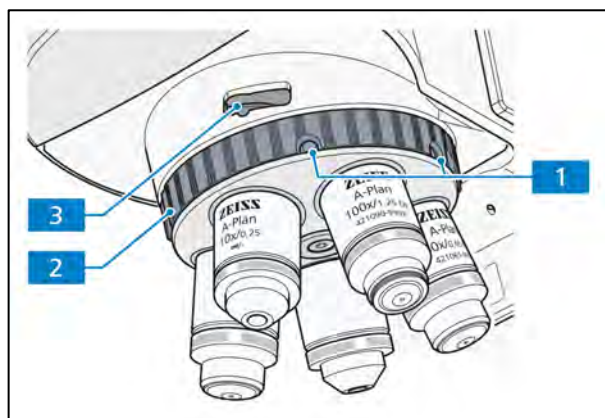

Fig. 2-22 Nosepiece of the transmitted/
- You can change the objectives quickly by turning the nosepiece on knurled ring (Fig. 2-22/2).
- Incorporates slot (Fig. 2-22/3) for 6x20mm slider (compensators, analyzers, quarter plates).
- Stand for transmitted light polarization and stand for transmitted light conoscopy with 5_position nosepiece, of which one position is fixed and four positions can be centered with the aid of two screws each (Fig. 2-22/1).
Do not overtighten the screws (Fig. 2-22/1) on the stop.